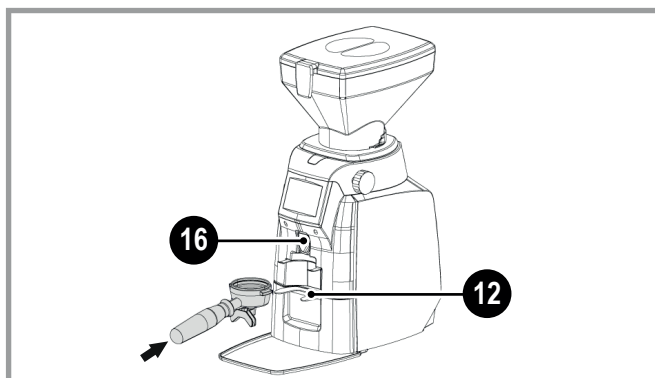

Fig. 6.5 - Dosing of ground coffee
For the dosing of ground coffee, see Fig.6.5.
- Place the portafilter of the coffee-making machine on the support fork (12 - Fig.6.5).
- The grinder-doser operates for the pre-set dose time, and the ground coffee is dispensed via the duct (16 - Fig.6.5).